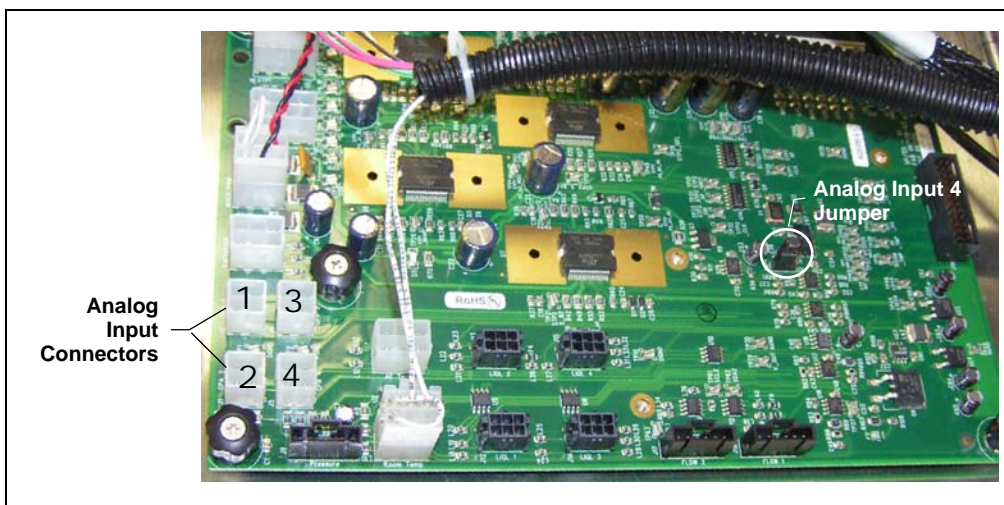
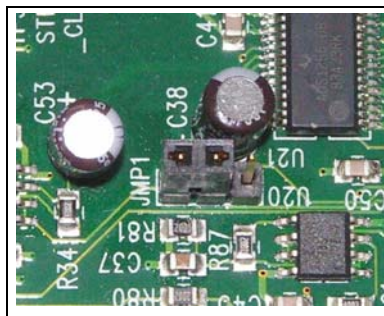

Figure 3-30. SP Electronics Board: Analog Input Connectors
Figure 3-32. Analog Input 4 Jumper (Default Position)
2. Follow the instructions in Section 10.6 to access the SP electronics board. The analog input connectors are in the bottom left corner of the board (see Figure 3-30).
NOTE Analog Input 4 is normally reserved for monitoring the dilution vessel mixer stir bar (see Section 3.5.2). It can be used for another function by changing the position of a jumper on the SP electronics board (see Figure 3-30). Instructions for changing the jumper position are on page 48.
input corresponds to the number of the connector on the SP electronics board (see Figure 3-30).
2. Follow the instructions in Section 10.6 to access the SP electronics board. The jumper is in the bottom right area of the board (see Figure 3-30), at position **JMP1** (see Figure 3-32).